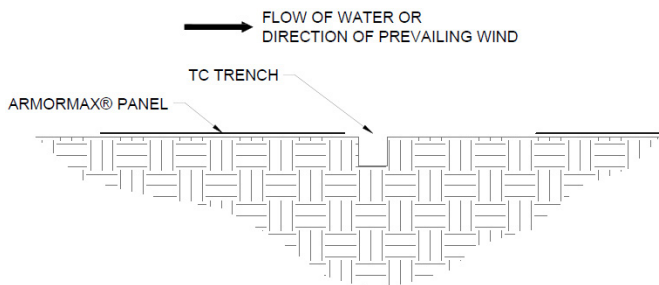

Figure 16: Terminal Channel (TC) Trench Alignment
14. Lay the HPTRM panel on the upstream side of the TC trench (Figure 16). Place the panel edge in the TC trench, ensuring full coverage along the bottom of the entire TC trench with the **PROPEX** Armormax (Figure 17).